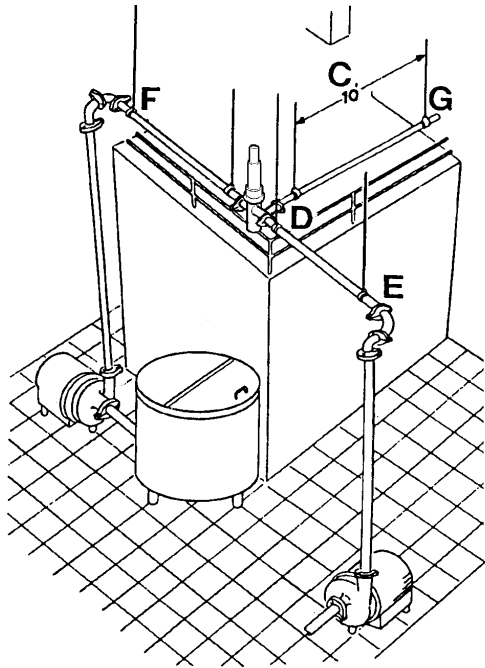

Figure 2 - Pipeline Support
1. Install supports at least every 10 feet (3 meters) on straight runs of piping (Figure 2, item C).
2. Install supports on both sides of the valves as close as possible to the connections (Figure 2, item D).
3. Install supports at each change of pipeline direction (Figure 2, item E and F).
4. For pipelines passing through walls, floors or ceilings, provide at least 1 inch (25 mm) of clearance around the pipe to allow for expansion and contraction. (Figure 2, item G).